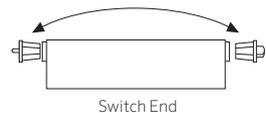

Fig 4
- Pull out both end plugs from the tube and switch them (Fig 4).